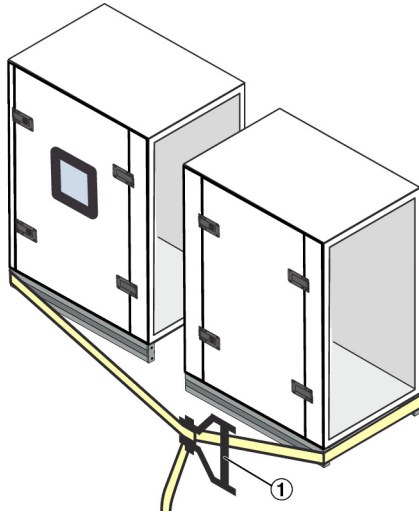

Fig. 14: Attaching a ratchet strap, with base frame
- 7. ▶ Attach a ratchet strap to the base frames of two AHU casing units ( Fig. 14 ).